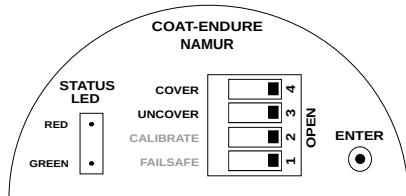

Figure 63: Saving of Low Current Configuration
- Blink the RED LED only once and release the ENTER key as per Figure 63.